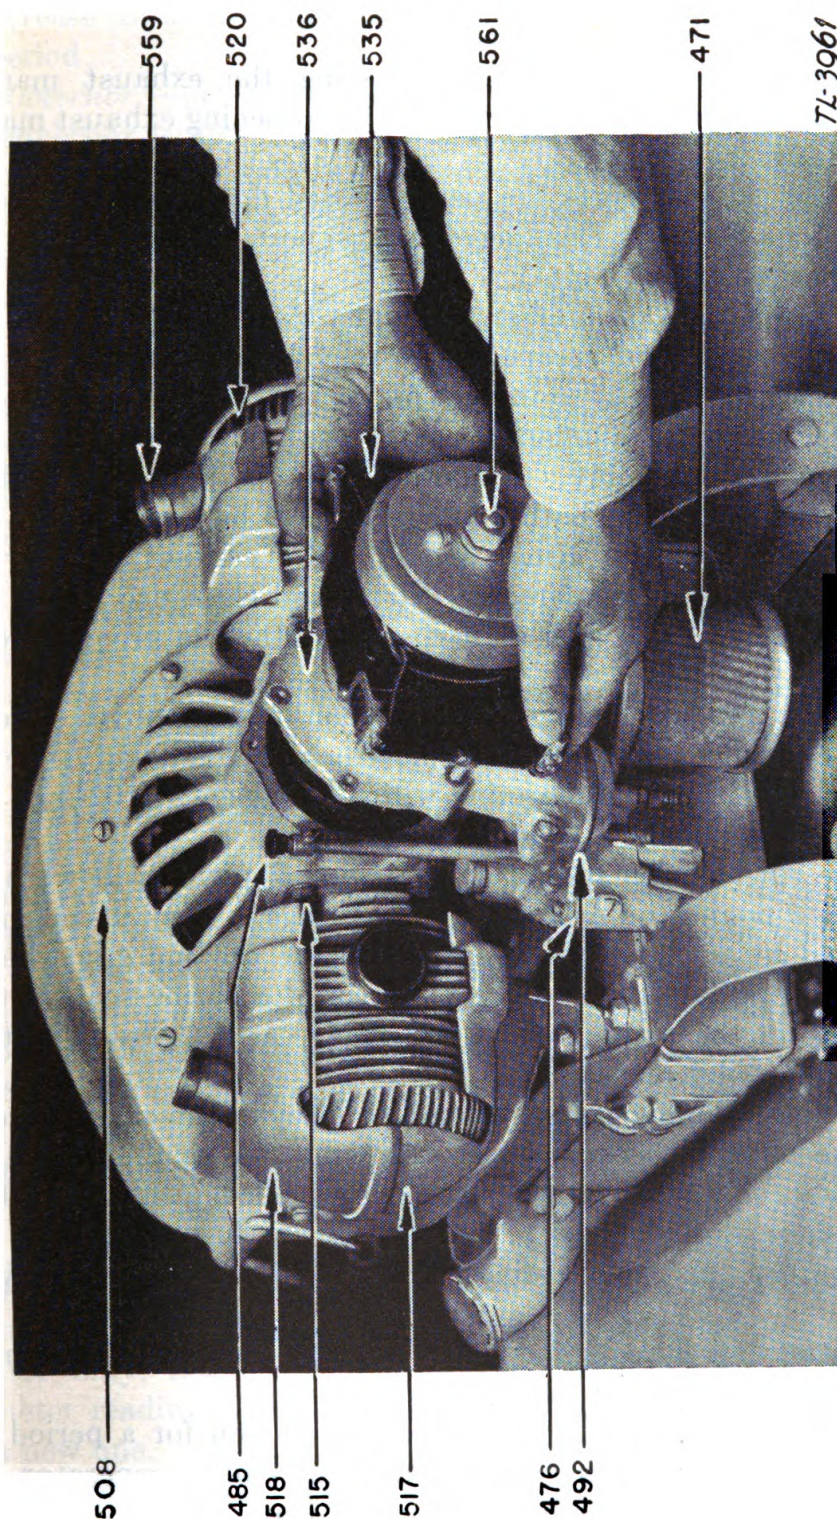

FIGURE 13.—Removing magneto and carburetor assembly.
(c) Choking, or priming, of the carburetor is accomplished by pulling up and releasing the black plunger button (485, fig. 13) on the priming pump which extends upward from the top of the carburetor.
(f) Clean air filter (471, fig. 13) on carburetor intake monthly. Take apart and rinse in gasoline. Then dip upper end of screen in engine oil and reassemble.
(e) Remove the six screws holding the magneto bracket (536) to the crankcase (508). Then magneto (535) and carburetor (476) can be removed as an assembly (fig. 13).
(d) Disconnect carburetor pressure line (492, fig. 13) from magneto bracket and remove two screws holding carburetor to bracket, thus permitting removal of entire carburetor assembly.